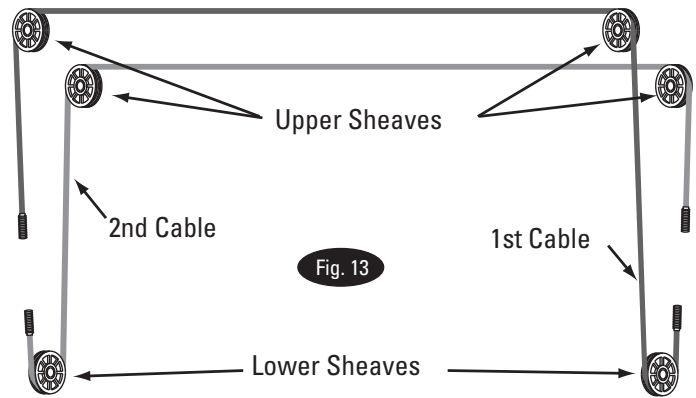
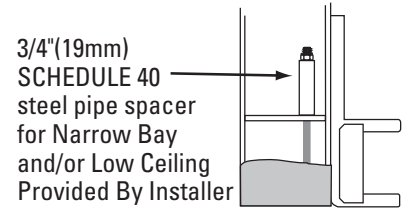

Fig. 13
Fig. 15
- A) Refer to Fig. 13 for the general cable arrangement. First, run a cable end up through the small hole in the lower tie-off plate. Fig. 15.
- D) Pull the cable back down, Fig. 15.
- E) Run cable around the lower sheave, then up and around overhead sheave and across and down to the opposite carriage, Fig. 13. Install sheave cover, Fig. 14.
- F) Fasten the cable end to the carriage upper tie-off bracket, Fig. 15. Tighten the locknut enough to apply light tension to the cable.